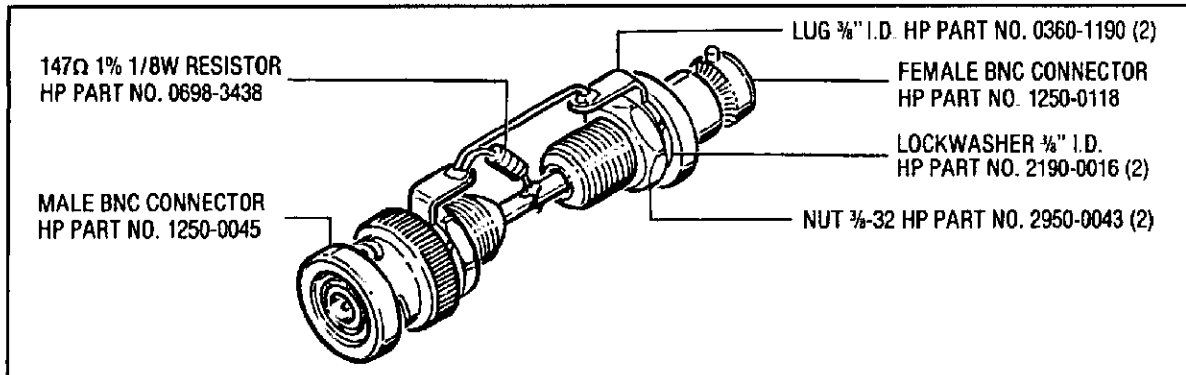
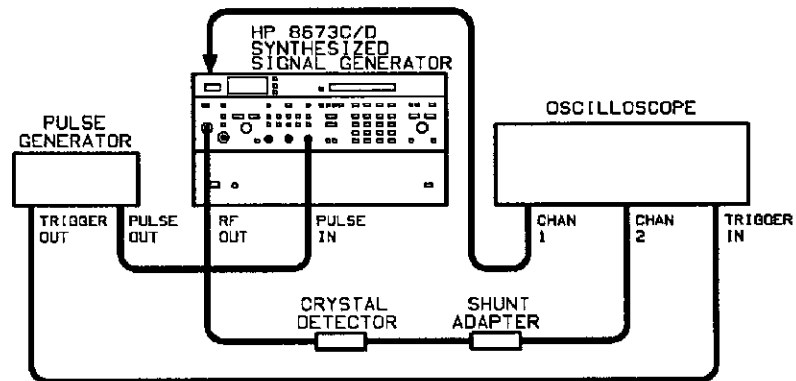

Figure 5-48. Pulse Shunt Adapter
Figure 5-49. ALC Sample Pulse Adjustment Test Setup
Shunt Adapter .....	Fabricated Locally (see figure 5-48)
6. Connect channel 2 to the shunt adapter (figure 5-48) output as shown in figure 5-49. The cable between the oscilloscope and the shunt adapter must not be longer than 24 inches.
The shunt adapter can easily be fabricated using 2 BNC connectors and a 147 ohm resistor as shown in figure 5-48.
Shunt Adapter .....	Locally fabricated (see figure 5-48)